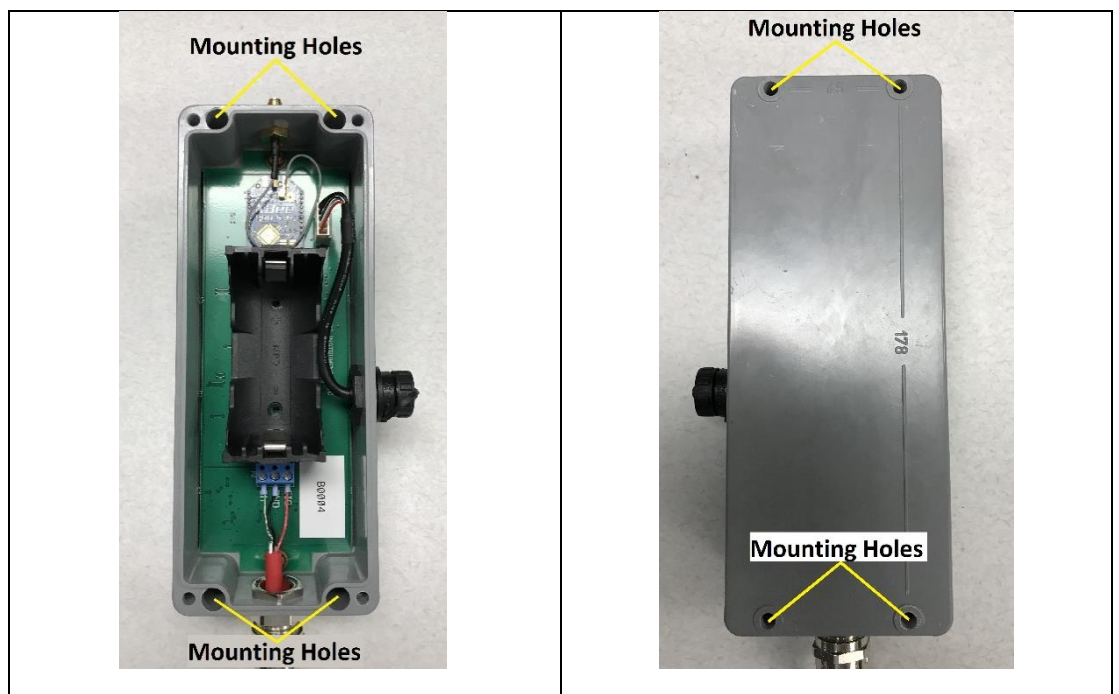

FIGURE 2-9 GAA2820 MOUNTING HOLES (LID REMOVED)
9. Once the unit is ready to be installed in the field, remove the lid from the data logger to gain access to the mounting holes. Attach the GAA2820 Data Logger to the secondary enclosure bracket. The GAA2820 Data Logger is equipped with four mounting holes. Refer to Figure 2-9.